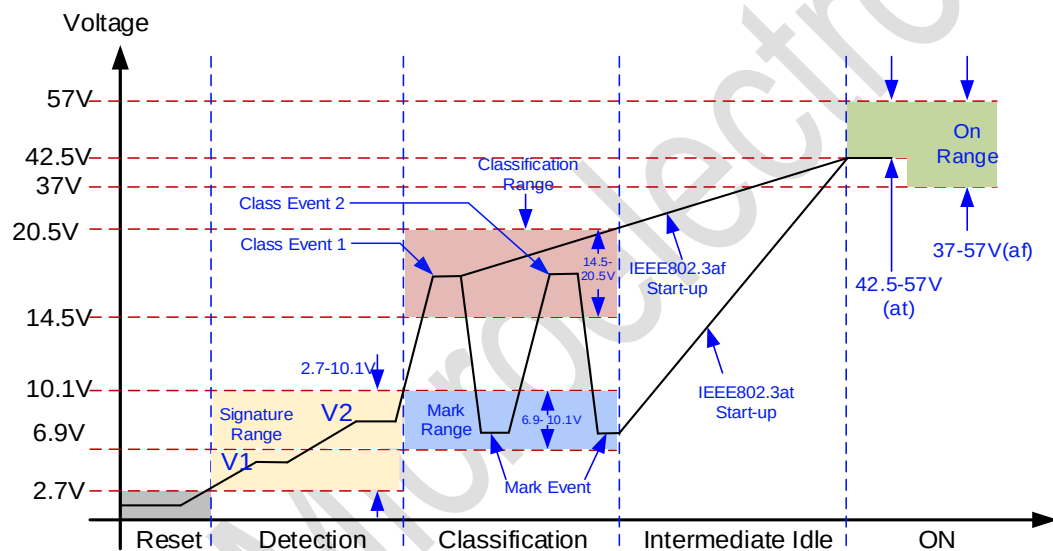

Figure 3 PD Interface Operation Description
Compared with IEEE802.3af, the IEEE802.3at standard establishes a higher power allocation for Power-over-Ethernet while maintaining backwards compatibility with the existing IEEE802.3af systems. Power Sourcing Equipment (PSE) and Powered Devices (PD) are distinguished as Type-1 complying with the IEEE 802.3af power levels, or Type-2 complying with the IEEE 802.3at power levels. IEEE802.3af/at standard establishes a method of communication between PD and PSE with detection, classification and event mark. TMI7303C provides a complete interface for a powered device (PD) to comply with IEEE 802.3af/at standard in a PoE system. Along with the PSE it operates as a safety device to supply voltage only when the power sourcing equipment recognizes a unique, tightly specified resistance at the end of an unknown length of Ethernet cable. After powered from PSE, the PD will regulate the output voltage based on application with isolated or non-isolated topology. Figure 1 shows the function diagram of this device, and Figure 3 shows typical PD interface power operation sequence.